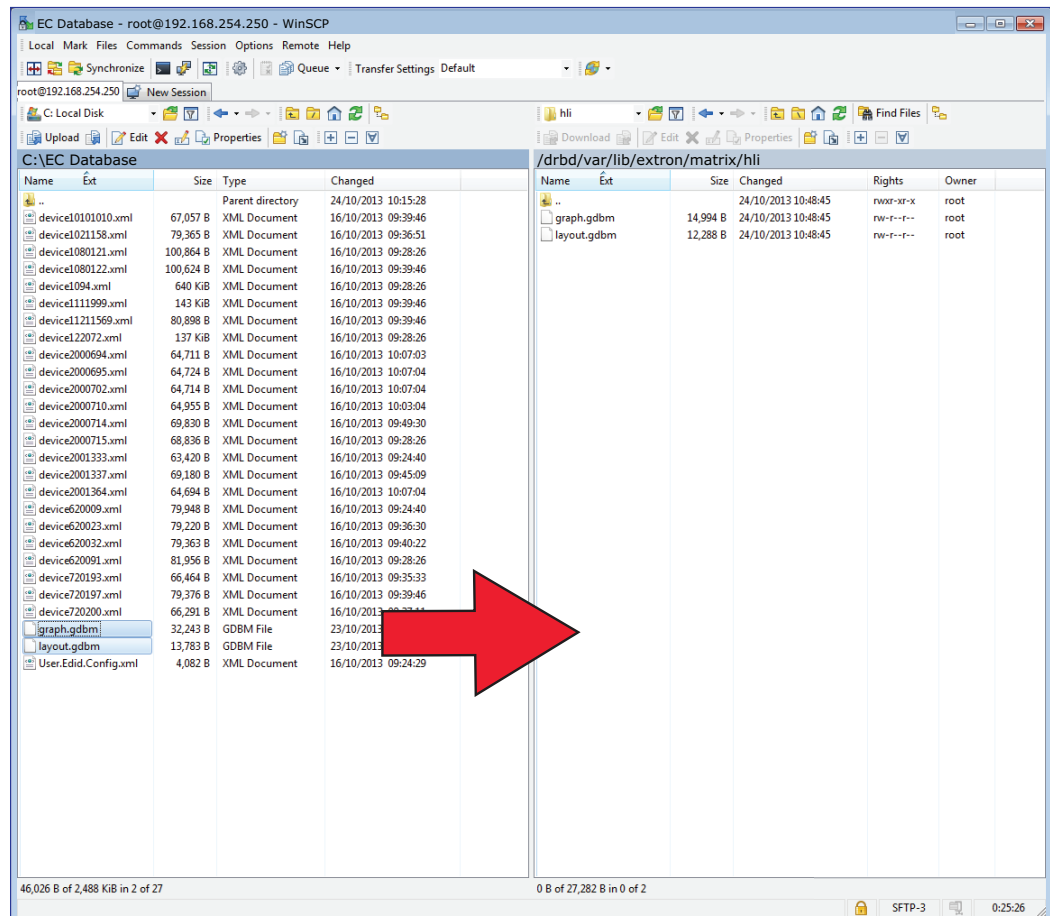

Figure 179. Copy Graph and Layout Files to Enterprise Controller
7. In the **right** pane, browse to the following folder (see figure 179):
8. In the left pane, copy the following files to the right pane (see figure 179 on the previous page):